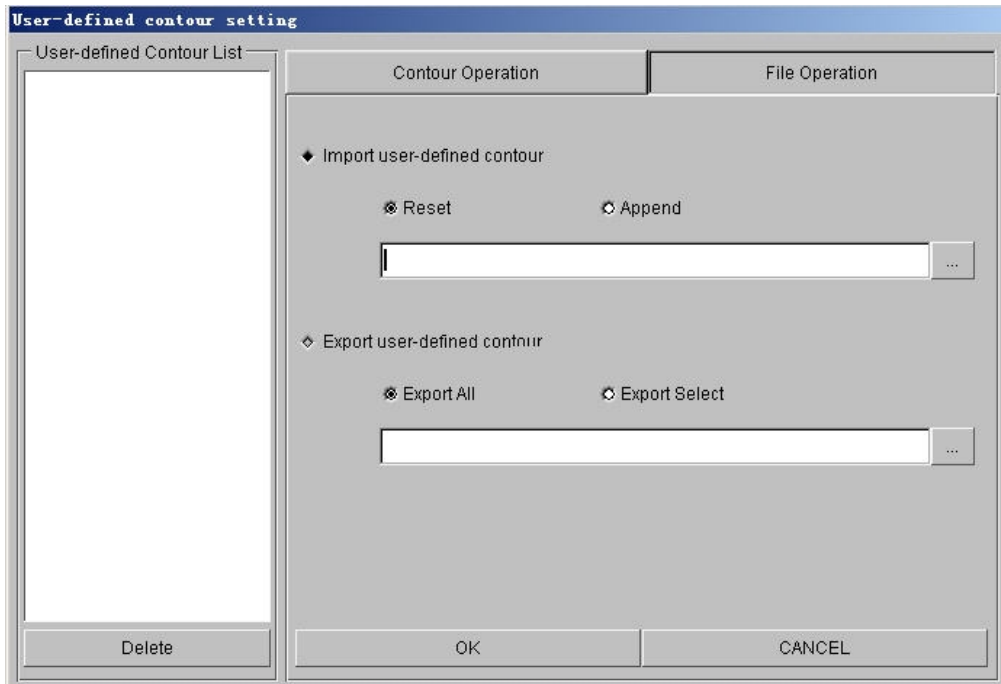

Figure 7.17 FILE OPERATION
2. FILE OPERATION allows the user to import file to generate new component or export the defined component to file, as shown in Figure 7.17.